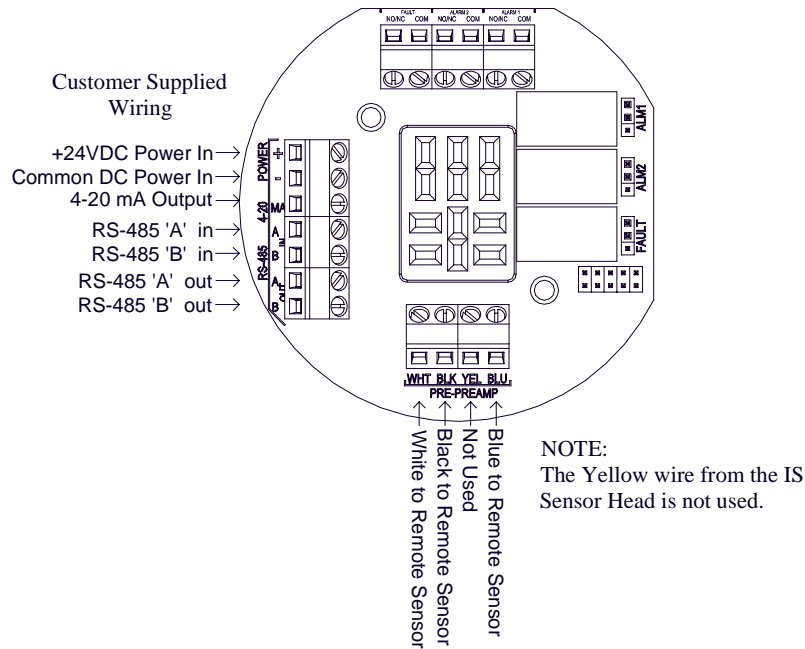

Figure 8 Sensor wiring
- Remove the junction box cover and un-plug the control circuit by grasping the two thumb screws and pulling outward. Observing correct polarity, connect the loop power field wiring to the terminals labeled “+” and “-” 4-20 mA. (Figure 8) Reinstall cover.
- Observing correct polarity, terminate 3 conductor field wiring, RS-485 wiring, and applicable alarm wiring to the sensor base connector board in accordance with the detail shown in Figure 8. Normally open and normally closed Form C dry contacts (rated 5 amp @ 125VAC; 5 amp @ 30VDC) are provided for Fault, Alarm 1, and Alarm2.
- Position gold plated jumper tabs located on the connector board in accordance with desired Form C dry contact outputs: NO = Normally Open; NC = Normally closed (see Figure 8).
Any unused jumper tabs should be stored on the connector board on the terminal strip labeled “Unused Jumpers” (see Figure 8).